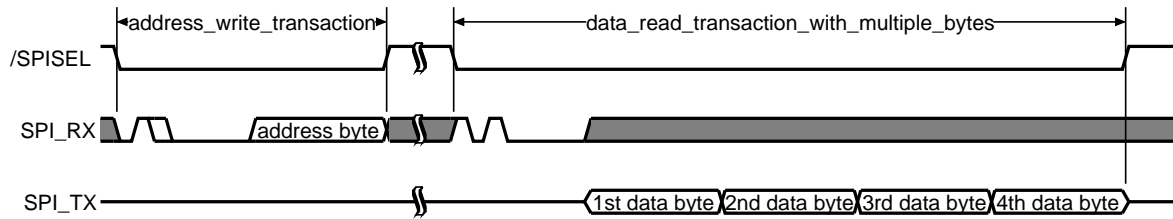

Figure 2.19: Register read access with a 40 bit transaction
3. Another way of reading multiple bytes from the same register is available with the 40 bit read transaction (Figure 2.19). With the first transaction (16 bits) the SPI master specifies the register address (control byte is '01X0CCCC'). Afterwards, four register values are transferred from XHFC-1SU to the SPI master (control byte is '1010 0000').